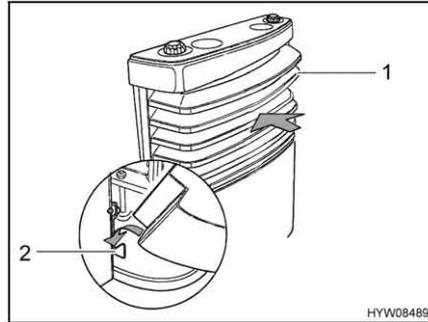

Fig. 139 Heater cover, lower brackets
- Mount the heater cover. To do this, place the heater cover (Fig. 139,1) on the lower brackets (Fig. 139,2).